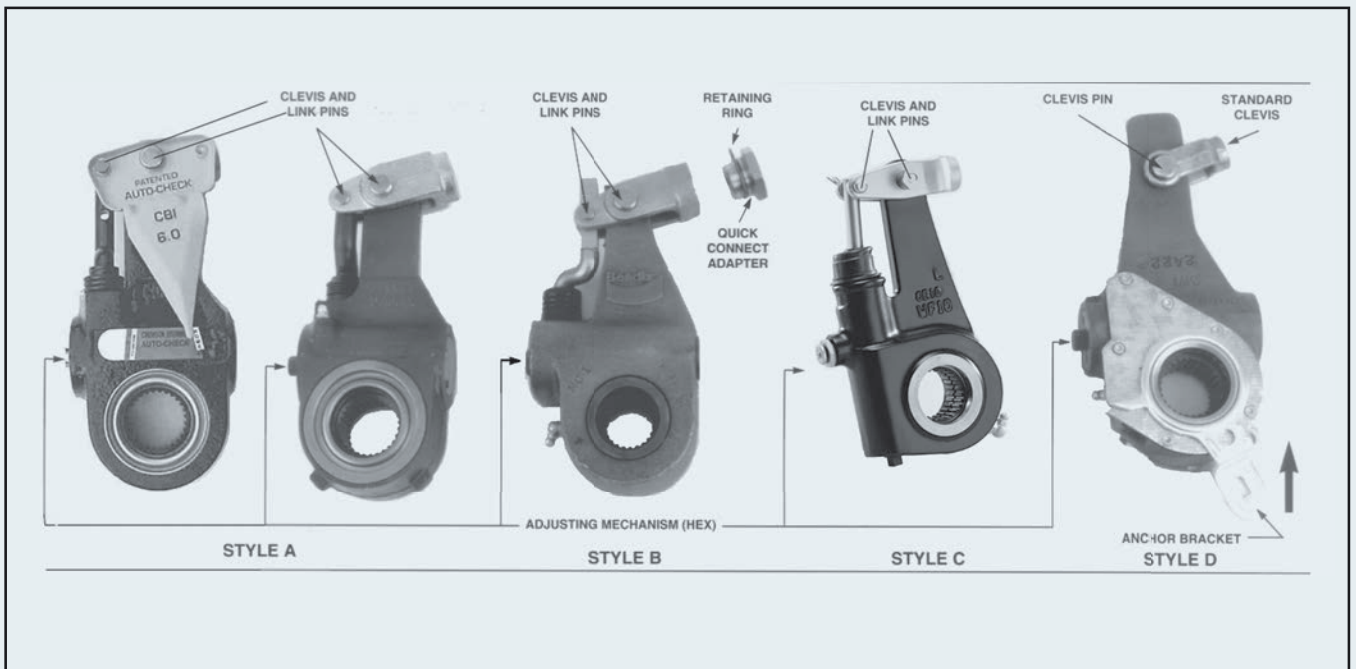

Fig. 2: Self-Adjusting Brake Adjuster Types
1. Remove the clevis and link pins and the anchor bracket nut or pawl, if necessary (see Fig. 2).
- 7A. Rotate the adjusting mechanism to either install a clevis and link pin or to connect the clevis with a quick connect nut (see Fig. 2, Styles A, B, and C).
- 8A. Using the correct gauge or template, (see Fig. 2, Styles A, B, and C) check for the proper mounting angle. Adjust the clevis for the correct angle, if necessary.
- 8B. Make sure the control arm is bottomed out in the direction of the arrow or if the control arm has a pointer, align with the cut-out gap provided (see **Fig. 2**, Style D) and then secure all anchor bracket hardware.